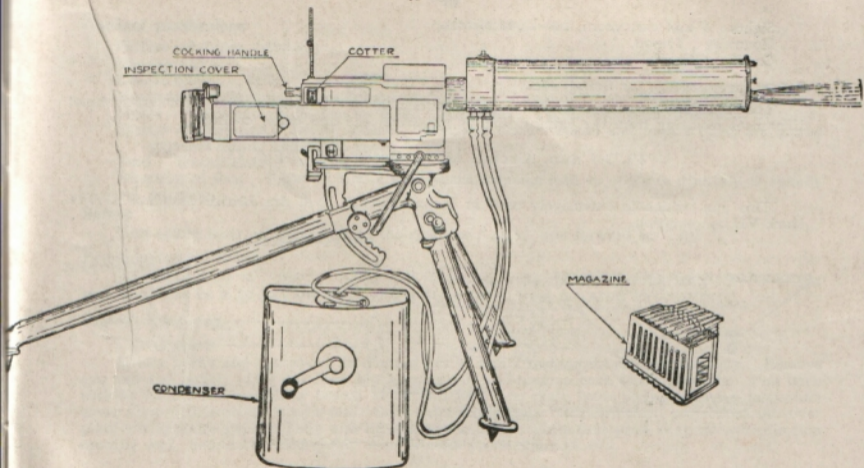

FIG. 10.—6.5 MM. M.M.G. MOD. 14—FIAT (REVELLI)
18. 6.5 mm. Medium M.G., Mod. 14—Fiat (Revelli). (Fig. 10)